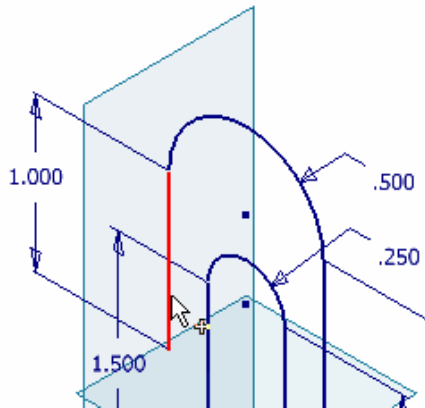

Figure 3a
- Click on Project Geometry and select the left vertical line. (Figure 3a)